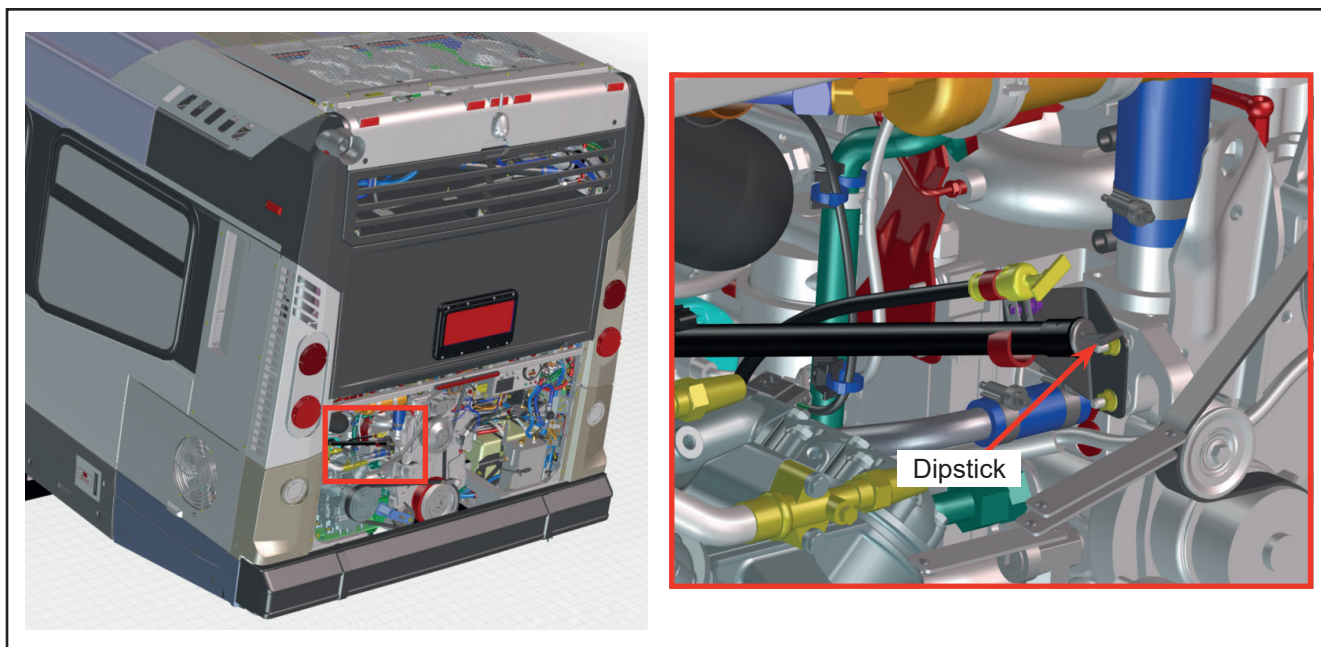

Figure 1 - Transmission Dipstick
- 1.5. Remove oil level Dipstick N57701 and discard. See Figure 1.